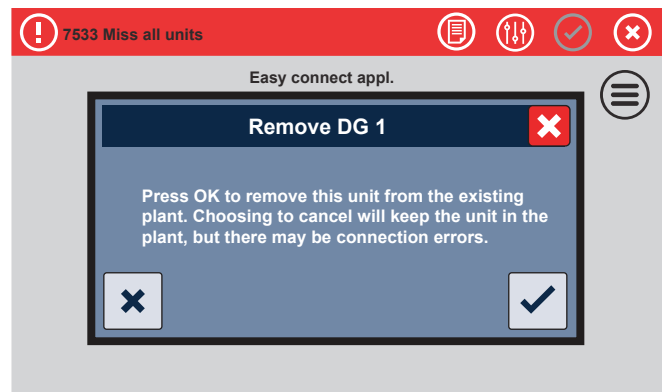

Figure 173. Remove DG Screen
9. The **Remove DG message screen** (Figure 173) will be displayed on each of the remaining units. Press the **OK button**.